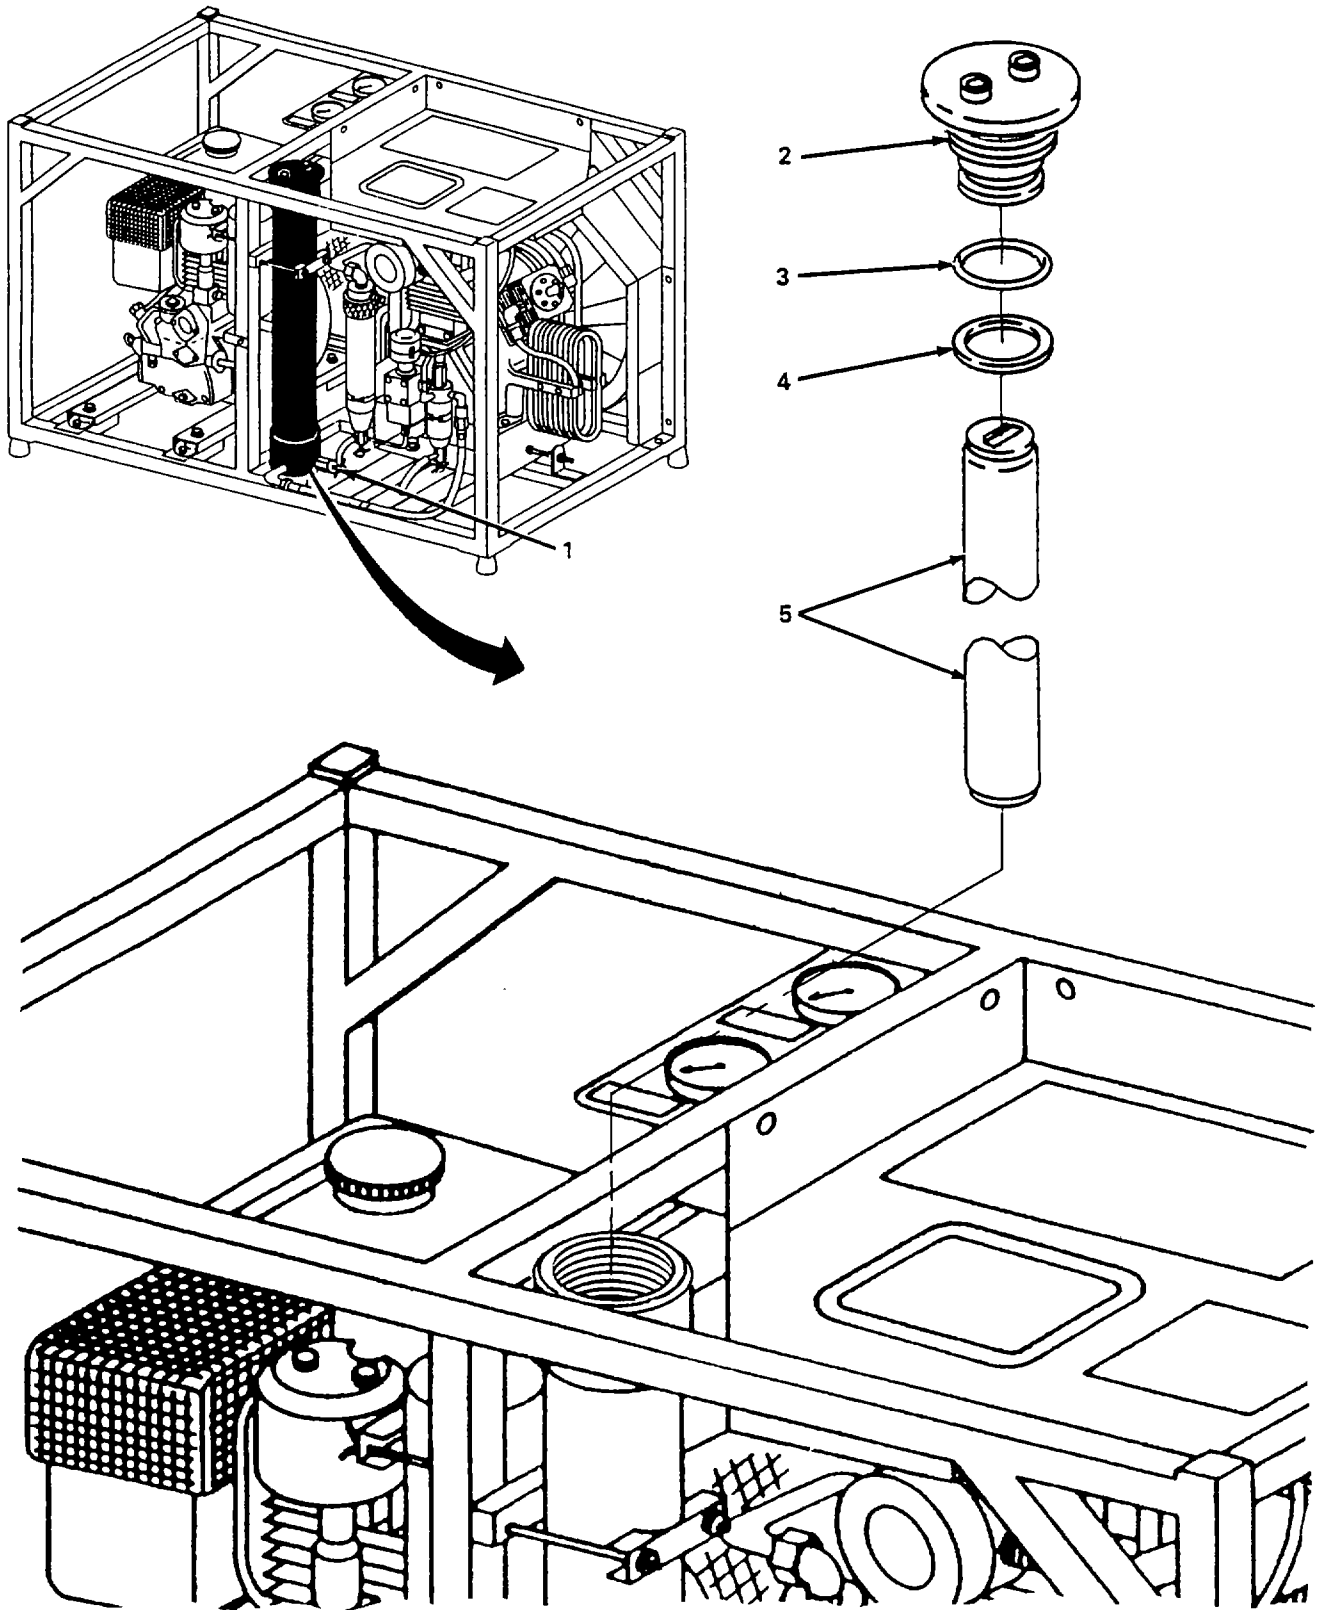

Figure 5-3. Purifier Assembly, Service.
a. Service. (figure 5-3)
- (1) Open drain valve (1) and remove pressure from air system.
- (2) Remove cap (2), preformed packing (3), backup ring (4) and purifier cartridge (5). Discard preformed packing (3).
- (3) Install purifier cartridge (5).
- (4) Perforate seal on top of cartridge (5).
- (5) Apply halo carbon grease to preformed packings.